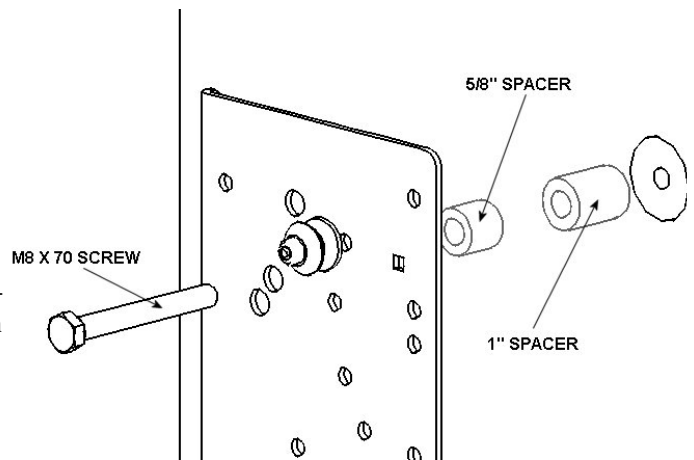
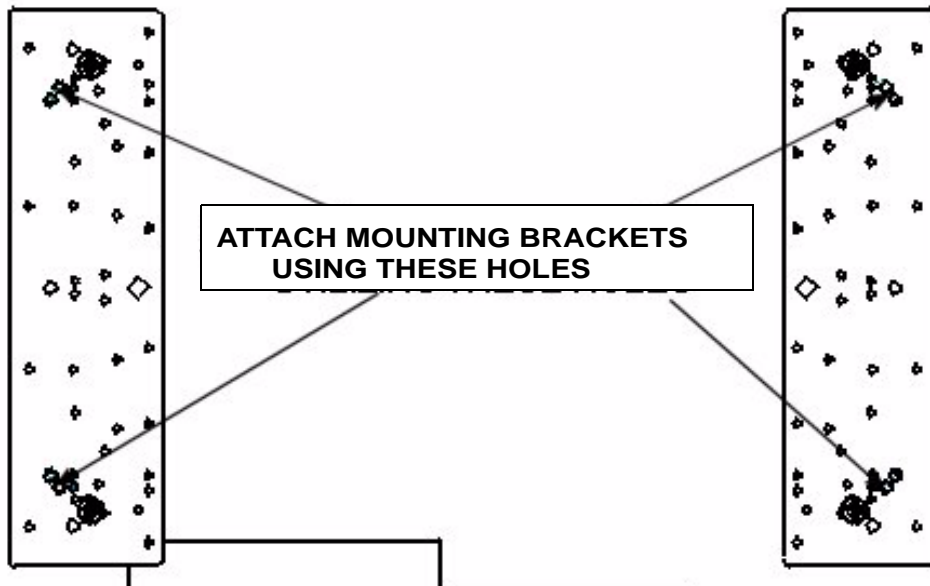

Figure 4. Spacer Installation for Group 1
Figure 5. Bracket Attachment for Group 1
3. Place four 5/8" and 1" Nylon spacers over the mounting holes on your display (see Figure 4).
4. Place the interface brackets over the Nylon spacers (see Figure 4 and Figure 5).
6. Using the hardware in the parts bag labeled B, attach the interface brackets to your display (see Figure 5). Do not overtighten the mounting screws.